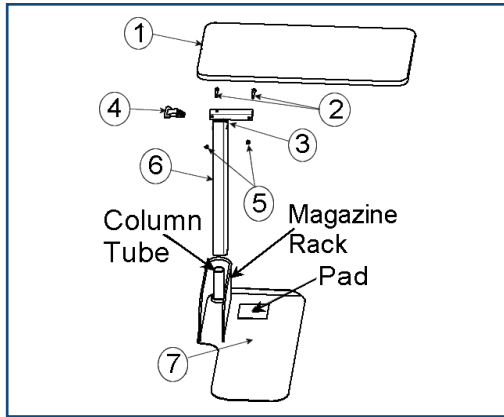

FIGURE 1
2. Stand the Column (#6) on end, making sure the Trip Rod is visible in the rectangular tube but not protruding out of the top, as shown in Fig. 1. If necessary, shake the Column (#6) until the rod drops.
3. Insert Trip Handle (#4) into the Column (#6) with the rounded side up. Be sure that the Trip Handle (#4) rests on top of the rod inside the Column foot (#6). Fig. 1